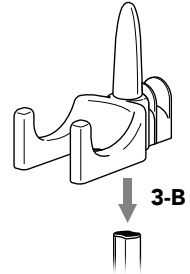

FIGURE 3
1. Look at underside of Pole Top, and locate two guide tabs (FIGURE 3-A).
3. Slide Pole Top onto SECTION 1 of Telescopic Pole (FIGURE 3-B). Press down firmly until Pole Top fits securely in place.